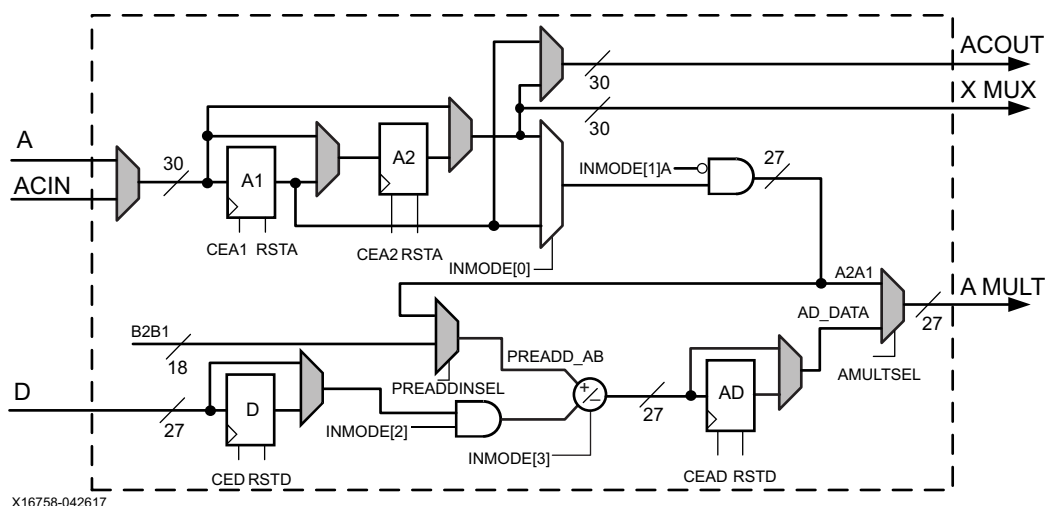
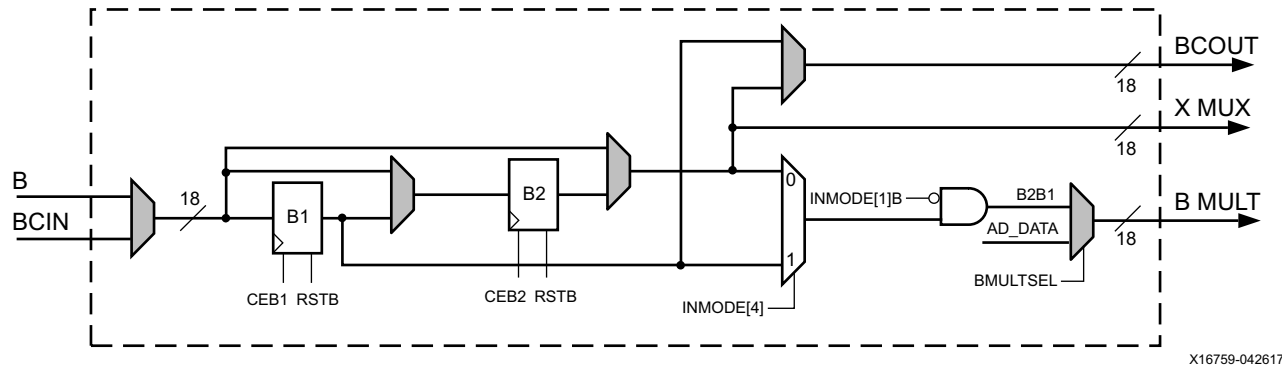

Figure 2-5: Dual A, D, and Pre-Adder Logic
Figure 2-6: Dual B Register Logic
The A and B input port and the ACIN and BCIN cascade port can have 0, 1, or 2 pipeline stages in its datapath. The dual A, D, and pre-adder port logic is shown in Figure 2-5. The dual B register port logic is shown in Figure 2-6. The different pipestages are set using attributes. Attributes AREG and BREG are used to select the number of pipeline stages for A and B direct inputs to the X multiplexer to the ALU, and INMODE[0] can dynamically change the number of pipeline stages to the multiplier. Attributes ACASCREG and BCASCREG select the number of pipeline stages in the ACOUT and BCOUT cascade datapaths. The allowed attribute settings are shown in Table 3-3, page 54. Multiplexers controlled by configuration bits select flow through paths, optional registers, or cascaded inputs. The data port registers allow users to typically trade off increased clock frequency (i.e., higher performance) vs. data latency.
1. INMODE[1]A and INMODE[1]B are internal signals defined by the user settings of PREADDINSEL and INMODE[1]. If PREADDINSEL=A, INMODE[1]A (see Figure 2-5, page 24) is INMODE[1] and INMODE[1]B (see Figure 2-6, page 25) is 0. If PREADDINSEL=B, INMODE[1]B is INMODE[1] and INMODE[1]A is 0.